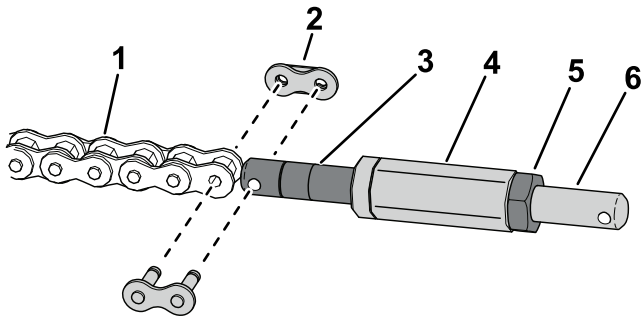

**Figure 12**
4. Use a flag pin and a hex-head screw to secure the wheel stop to the ramp assembly (Figure 12).